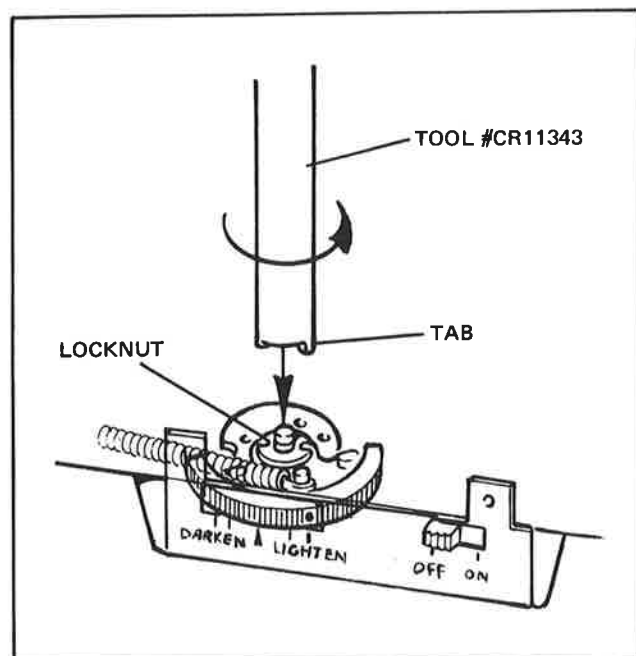

FIG. 4-25 LOOSENING THE ADJUSTMENT NUT
1. Turn the "Darken-Lighten" wheel to full **LIGHTEN**. Fit the tabs of tool CR11343 in the slots of the locknut and rotate the tool **counterclockwise** until the locknut is loose (Figure 4-25).